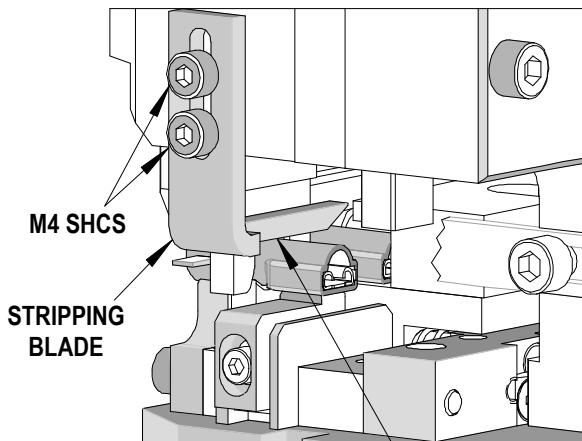

Figure 2-20
5. Retighten the two M4 SHCS. See Figure 2-20.